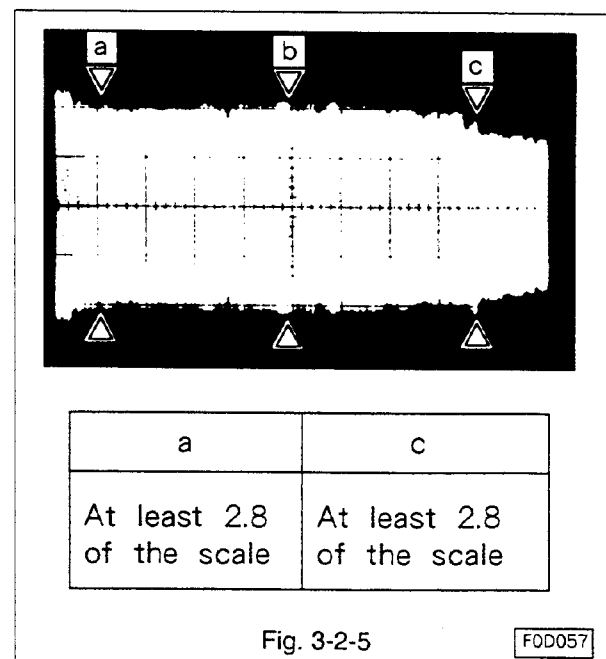

Fig. 3-2-5
(Refer to Fig. 3-2-5.)
- D. Adjust tracking so that the amplitude at the middle (around the point 'b') of the FM waveform is about 80% ('4' on the scale of the scope) of the maximum amplitude. Make certain that the amplitudes at points 'a' and 'c' satisfy the requirements given in Fig. 3-2-5.